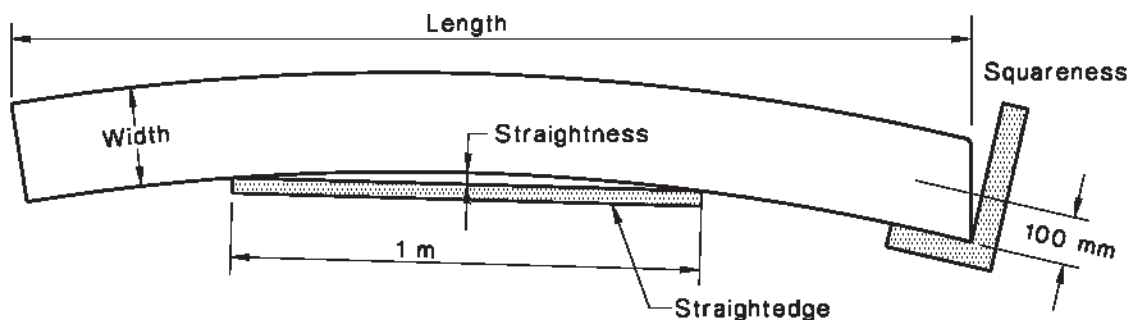

FIGURE 1 DIMENSIONAL PROPERTIES
- (c) **Squareness** Place the square against the specimen and the cut edge as illustrated in Figure 1. Measure (to the nearest 0.1 mm) the gap between the cut edge and the square 100 mm from the point of contact. Multiply this figure by 10 to give the gap at 1 m. Take a measurement of each diagonal to the nearest 1 mm. Calculate the difference.
- (e) **Straightness** Place the straightedge against the top or bottom edge of the cladding at all places along the length (see Figure 1), and measure to the nearest 0.5 mm the greatest gap between the edge of the cladding and the straightedge.